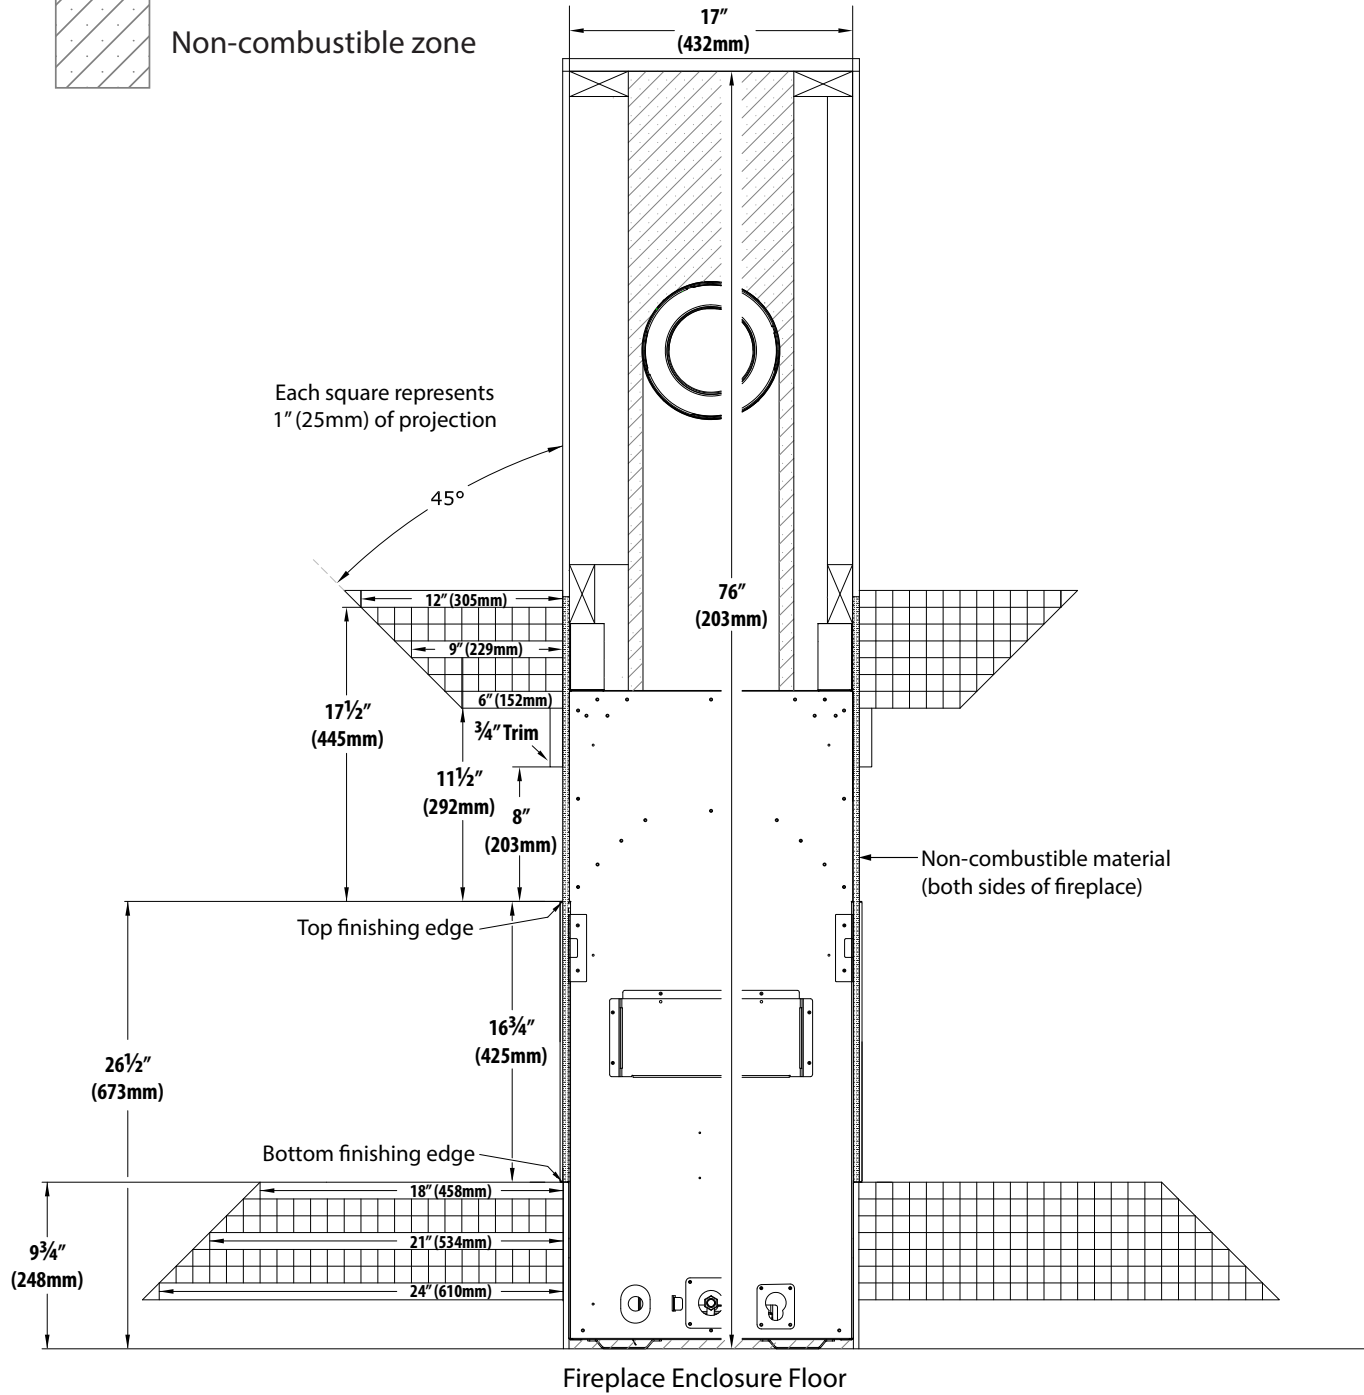

Figure 4.1, Standard Installation Combustible Mantel and Hearth - No Surround
- **Combustible Mantel Projections:** As referenced in Figure 4.1 (page 35), the 3/4" (19mm) trim can start at 8" (203mm) above the top finishing edge with a 6" (152mm) mantel starting at 11-1/2" (292mm) above the top finishing edge. Mantel projections can increase 1" (25mm) of depth for every 1" (25mm) of height starting at the 6" (152mm) mantel.
- **Combustible Hearth:** As referenced in Figure 4.1 (page 35), the bottom of the bottom finishing edge can be flush with the top of the hearth if not using any optional surround. *If installing an optional surround*, refer to Measurement 'B' in Section 4.4 Finishing Guidelines for Optional Surrounds on page 42.